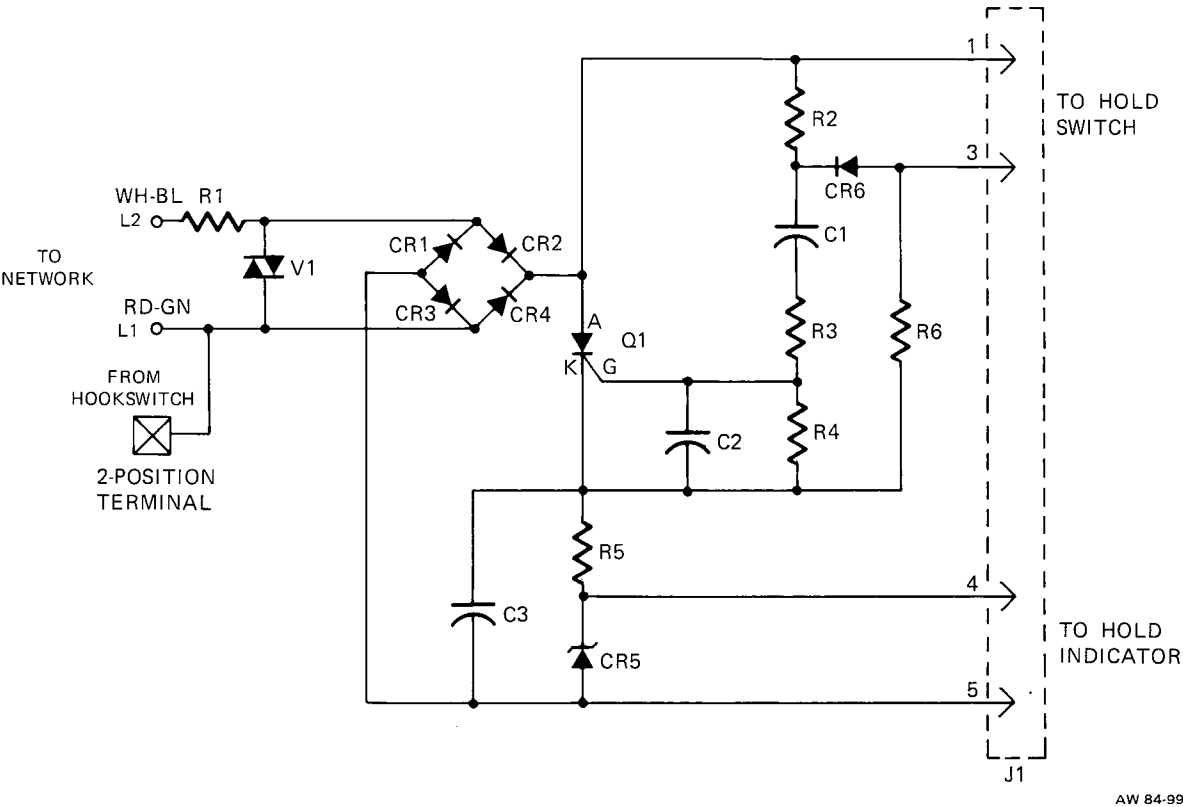

Figure 2: Model 187995 Hold Circuit PCB, Schematic
2.01 The Model 187995 PCB is a hold circuit designed for use in ITT single-line telephones. The circuit allows the station user to place a CO/PBX (Central Office/Private Branch Exchange) line on hold. (See Figure 2.)